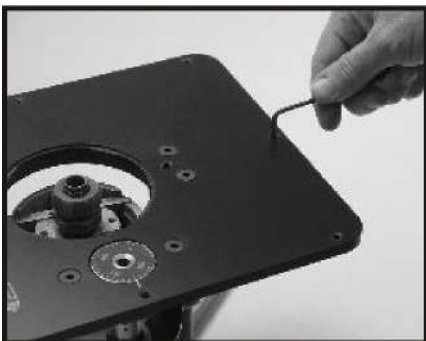

Figure 5
1. With the Rout-R-Lift FX in the table top opening, install (10) set screws into the holes around the lift perimeter. Adjust (Fig. 5) the four corners first to align the lift surface to the table surface so that both are flush. Adjust the remaining set screws on the sides to provide added support.